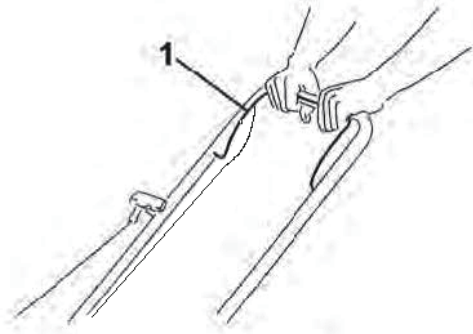

Fig. 11
2. Hold the blade control bar (Fig. 11) against the handle.